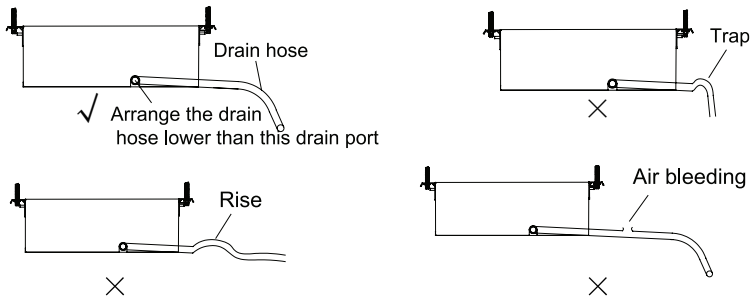

Fig.23
- (1). Install the drain hose with downward gradient (1/50 to 1/100) and no risers or traps are used for the hose.(Fig.23)
- (2). Be sure there is no crack or leak on the drain hose to avoid the formation of air pocket. (Fig.23)